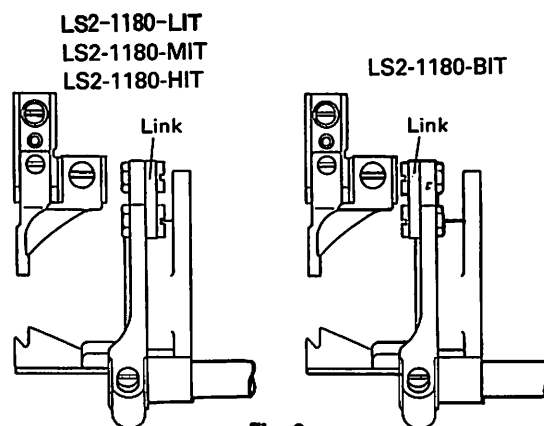

Fig. 6
(1) Make connection as shown in Fig. 6. At this time, use care for the position of link depends on the sewing machine model.